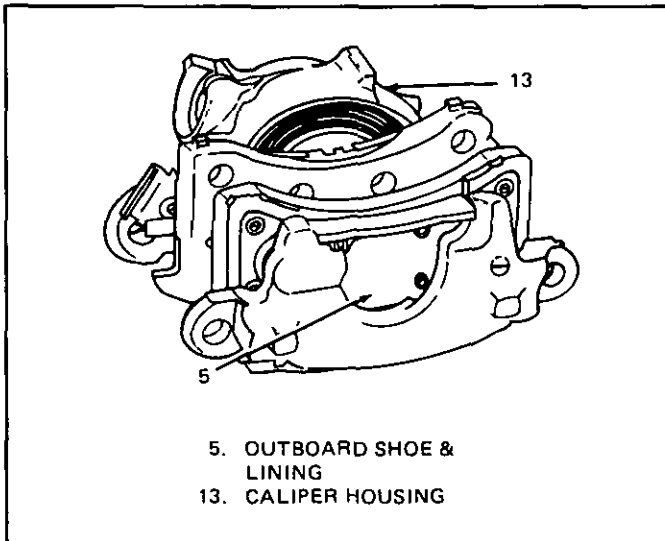

Figure 9 Installing Outboard Shoe and Lining
4. Outboard shoe and lining as shown in Figure 9